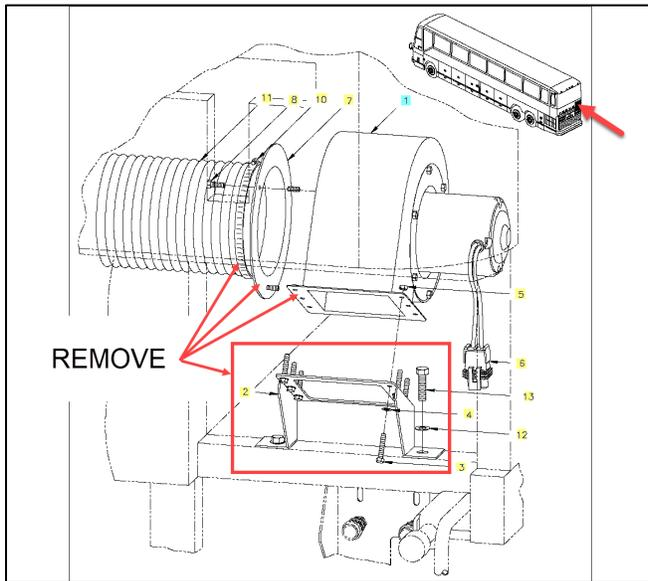

FIGURE 1: EXISTING INSTALLATION
1. From the engine compartment, remove the existing lavatory fan installation (see Figure 1).